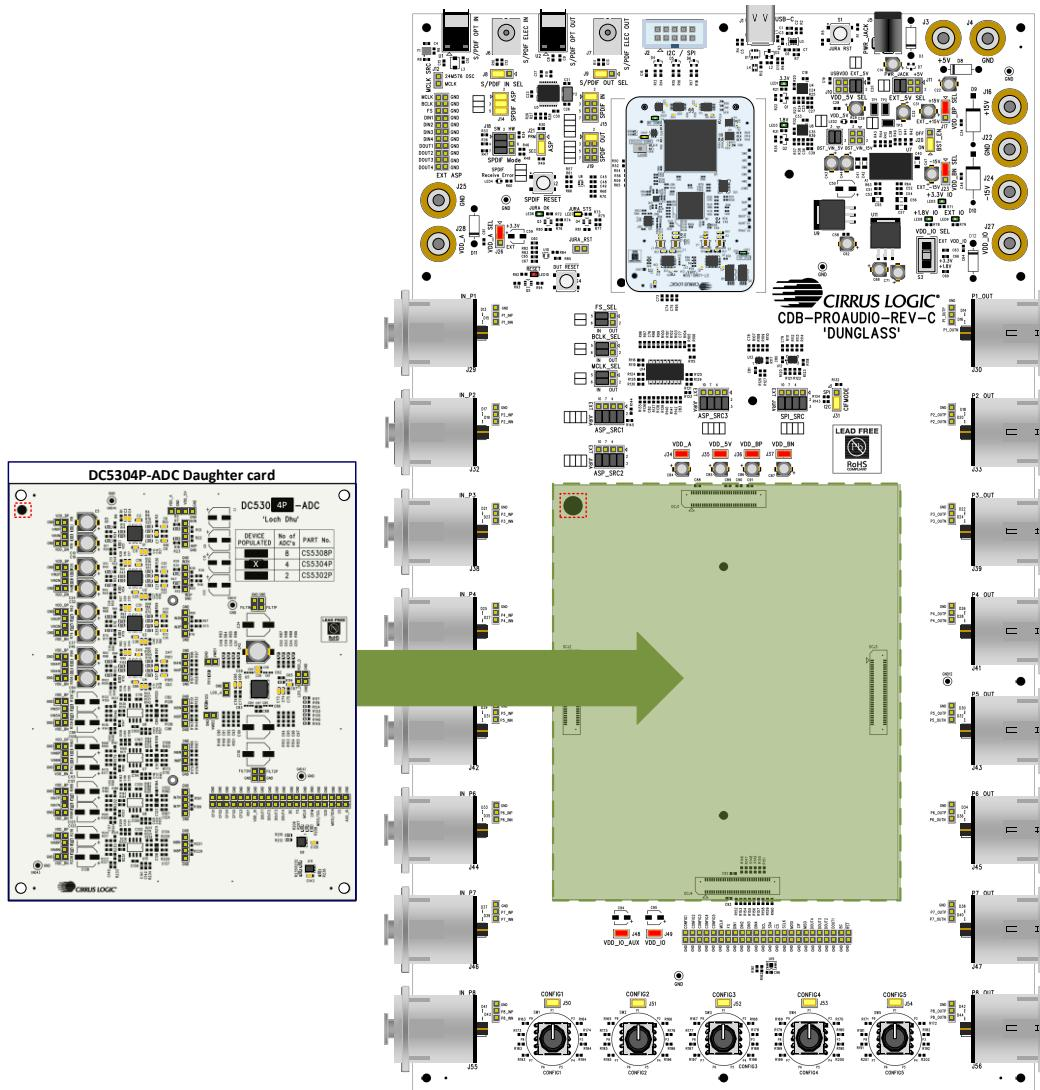

Figure 2: How to Connect DC5304P-ADC onto the Dunglass System
- Connect the hardware as shown in Figure 2